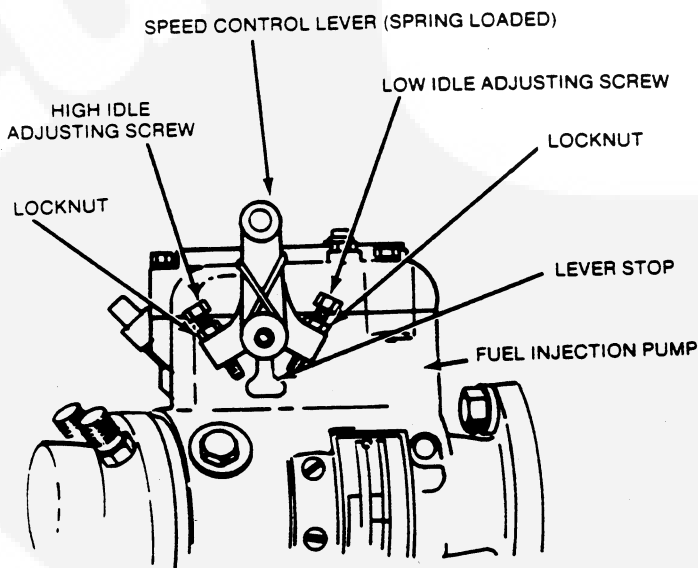

FIGURE 12. SPEED ADJUSTMENT
2. With engine running at operating temperature, loosen locknut (Figure 12) on low idle adjusting screw. Push speed control toward front (fan end) of engine so low idle adjusting screw touches lever stop. Turn low idle screw in to increase speed or out to decrease speed. When low idle rpm is obtained, hold adjusting screw and tighten locknut.
3. With engine running at operating temperature remove seal and loosen locknut (Figure 12) on high idle adjusting screw. Push speed control lever toward rear (away from fan) of engine so high idle adjusting screw touches lever stop. Turn high idle screw in to decrease or out to increase engine speed. After correct high idle speed is obtained, hold adjusting screw and tighten locknut.